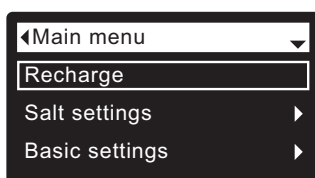

FIG. 29
During normal operation (status screens rolling), press the conditioner/refiner's SELECT (O) button to display the Main menu (See Figure 29). This menu and its subsidiary screens are used to control these operations: